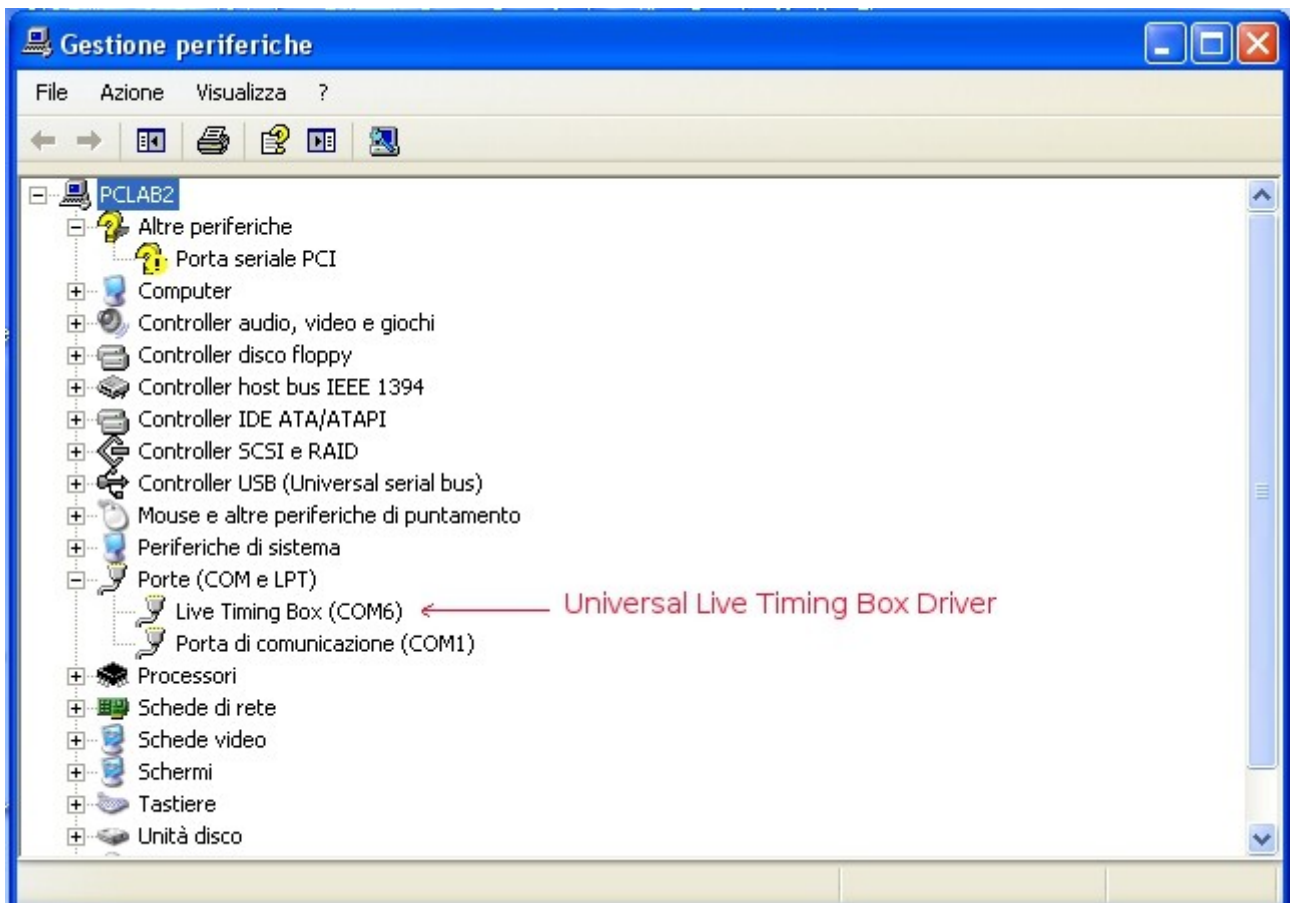

Figure 37: *Live Timing Box PC Interface driver installation's result check*
7. to make sure that the installation has been successful, go to the "Device manager" of the PC and verify that, with the *Universal Live Timing Box* connected to the PC, the devices shown in figure 37 appear.